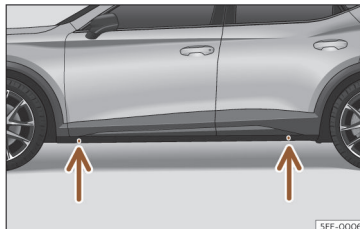

Fig. 38 Jack position points.
- Find the support point on the strut (sunken area) closest to the wheel to be changed >>> **Fig. 38**.